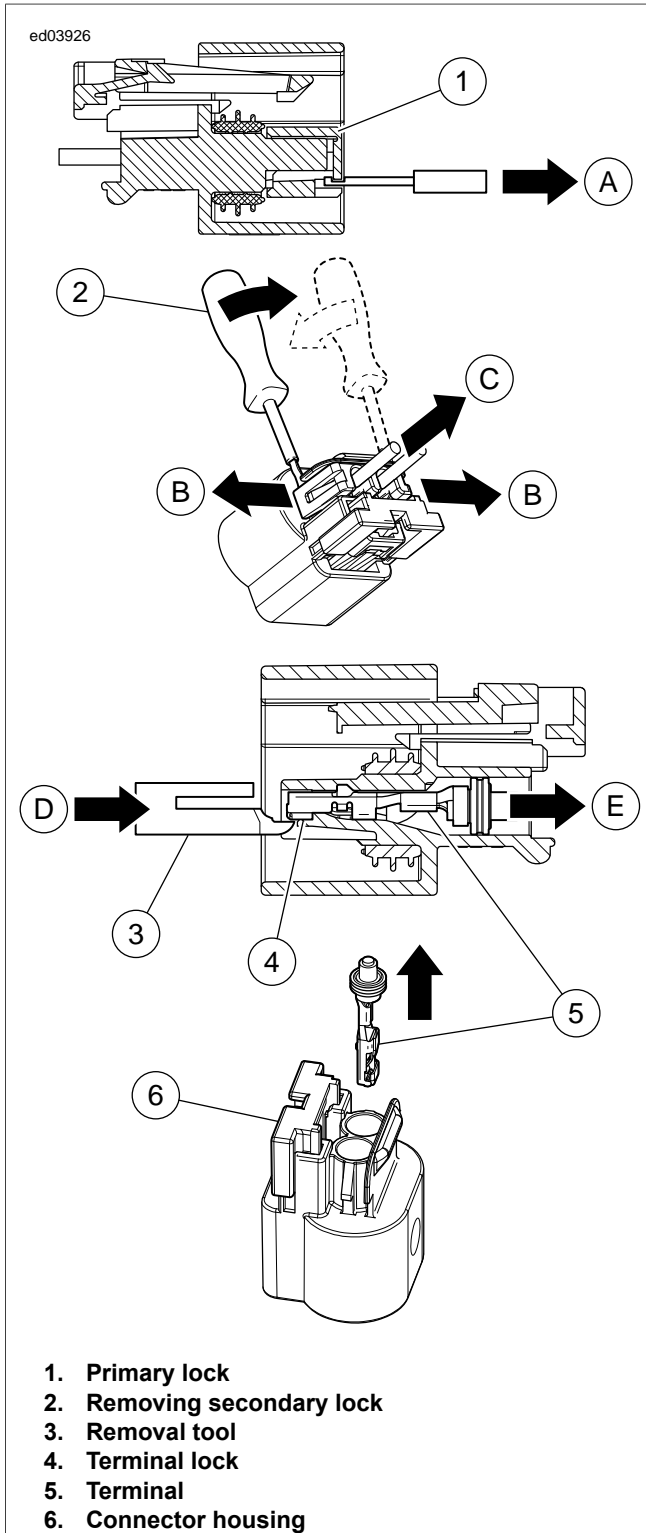

Figure B-6. Terminal Removal
1. See Figure B-6. Using *TERMINAL EXTRACTOR* (Part No. B-50085), completely remove the primary lock.